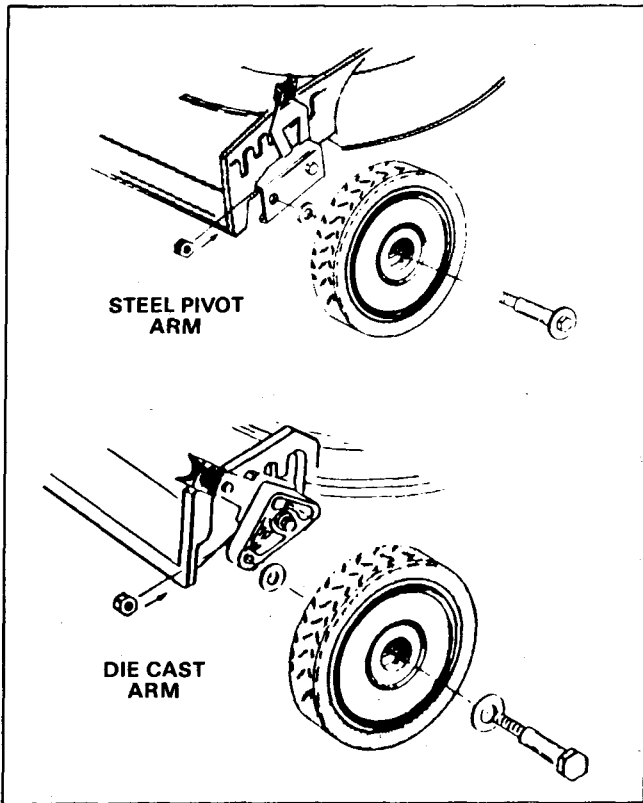

Figure 77
4. See Figure 77 to identify the type of front pivot arms which mount the wheels to your mower.